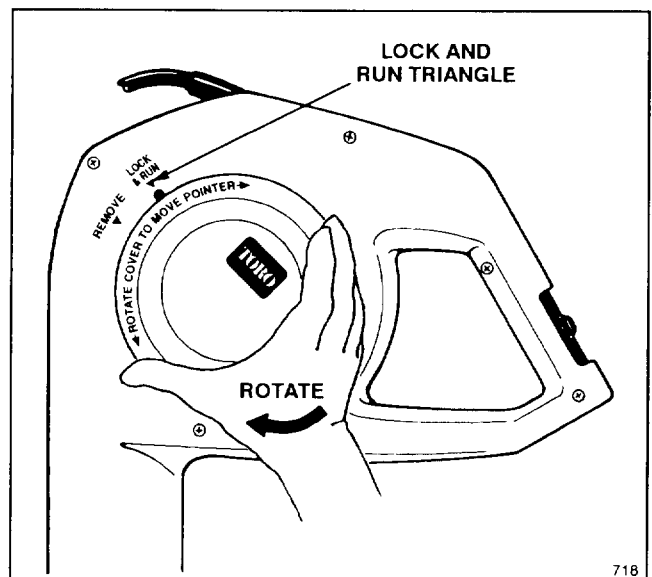

Figure 3
4. Rotate inlet cover clockwise with some extra force until you hear a "snap." The black pointer and the "LOCK & RUN" triangle on the housing must line up (Fig. 3).